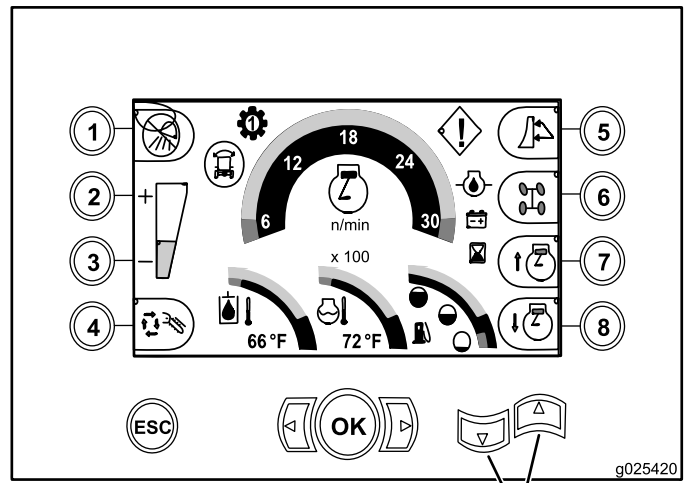

Figure 5
2. From the Home screen, press and hold the up and down arrow keys (Figure 5).